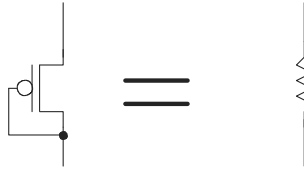

Figure 21.57 The small-signal behavior of a diode-connected MOSFET.
- 21.1** Using simulations, show that the small-signal resistance of a gate-drain-connected PMOS device, Fig. 21.57, behaves like a resistor with a value of $1/g_m$.